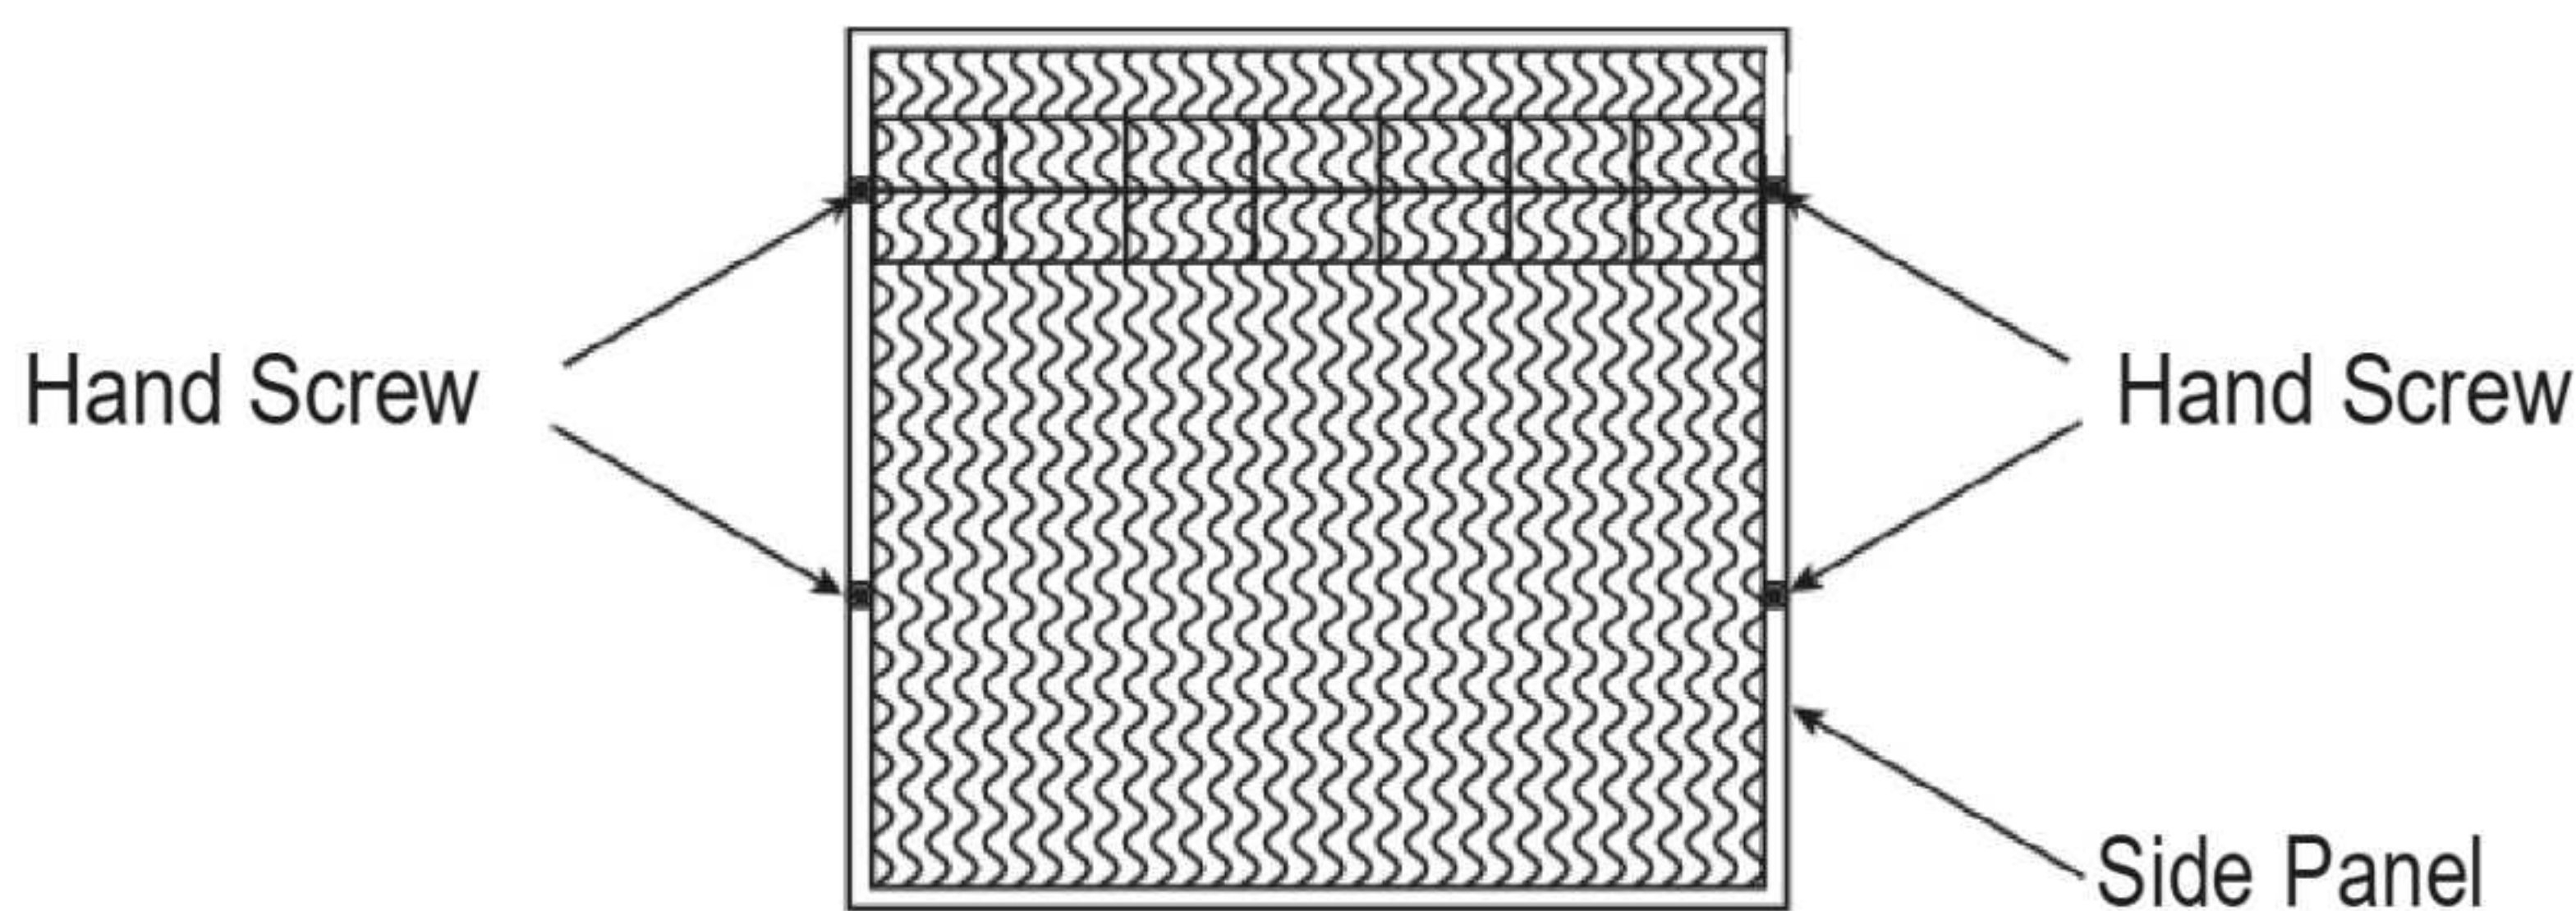

Fig.1
- To change the Honeycomb, remove the hand screws which hold the side panel (Refer Fig.1). Remove the Honeycomb holder and replace the Honeycomb. Refix the Honeycomb holder wheel and screw back the panel to the unit.